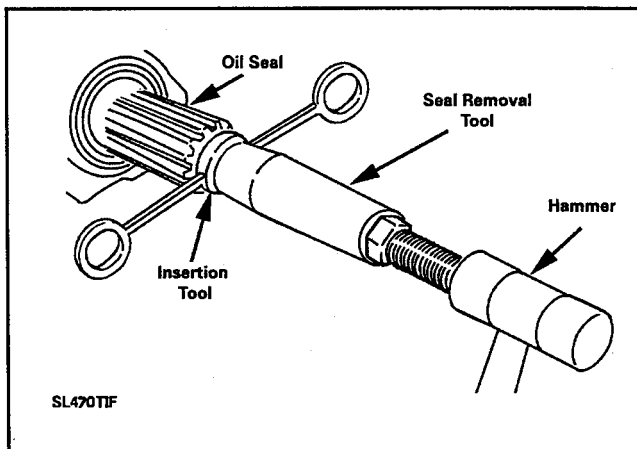

Figure 7-7e
6. Slide the transmission seal driver (tool number 2000021) over the drive shaft until it makes contact with the drive washer. Use a hammer to "tap" the seal into the end of the drive tube (*Figure 7-7e*).